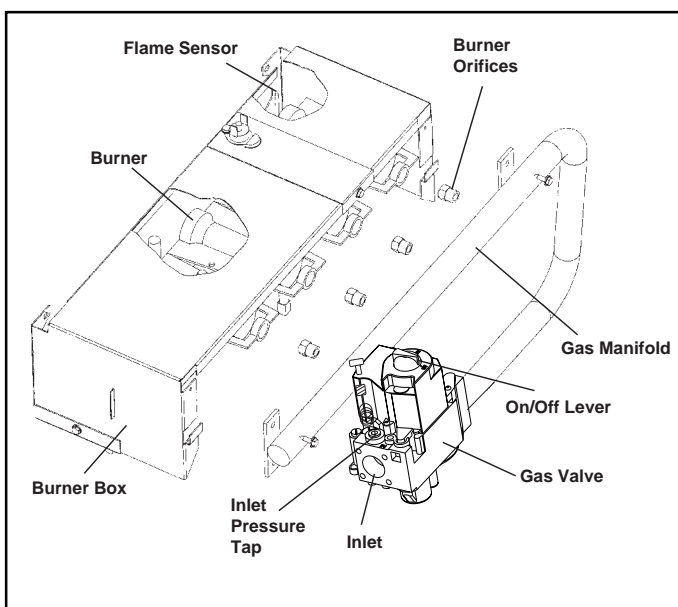

Figure 1. Typical Installation For Non-Sealed Burner Box
1. Remove the four (4) fasteners that secure the gas manifold to the burner box, as shown in Figures 1 and 2. Carefully remove the gas manifold assembly from the burner box. Note that the gas manifold assembly consists of the gas valve, the gas manifold, and the orifices.
- Carefully remove the burner orifices from the gas manifold, as shown in Figures 1 and 2.